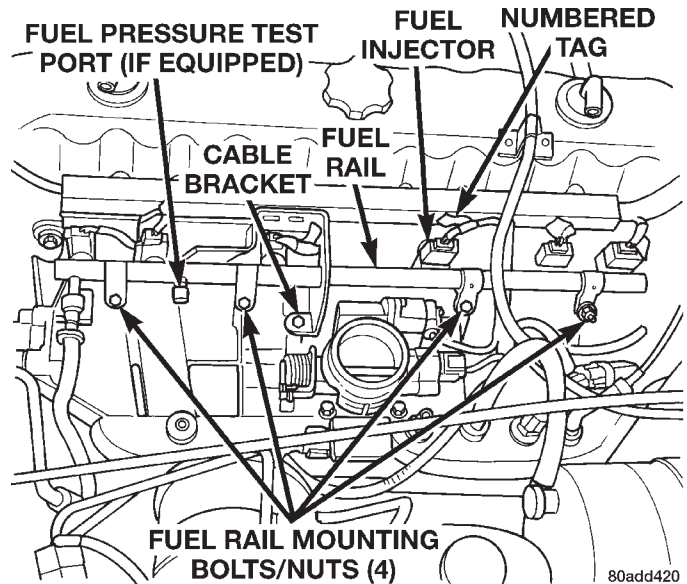

Fig. 30 Fuel Rail Mounting—4.0L Engine
- (1) Remove fuel tank filler tube cap.
- (2) Perform Fuel System Pressure Release Procedure as described in this Group.
- (3) Disconnect negative battery cable from battery.
- (4) Remove air tube at top of throttle body. Note: Some engine/vehicles may require removal of air cleaner ducts at throttle body.
- (5) Remove injector harness electrical connectors at each injector. Each injector connector should have a numerical tag attached identifying its corresponding cylinder (Fig. 30). If not, identify each connector before removal.
- (6) Disconnect fuel supply line latch clip and fuel line at fuel rail. Refer to Quick-Connect Fittings in this group for procedures.
- (7) Disconnect throttle cable at throttle body. Refer to Throttle Cable Removal/Installation in this group for procedures.
- (8) Disconnect speed control cable at throttle body (if equipped). Refer to Speed Control Cable in Group 8H, Speed Control System for procedures.
- (9) Disconnect automatic transmission cable at throttle body (if equipped).
- (10) Remove cable routing bracket (Fig. 30) at intake manifold.
- (11) Remove nut securing crankshaft position sensor pigtail harness to fuel rail mounting stud. Remove clamp and harness from fuel rail mounting stud.
- (12) Clean dirt/debris from each fuel injector at intake manifold.
- (13) Remove fuel rail mounting nuts/bolts (Fig. 30).
- (14) Remove fuel rail by gently rocking until all the fuel injectors are out of intake manifold.